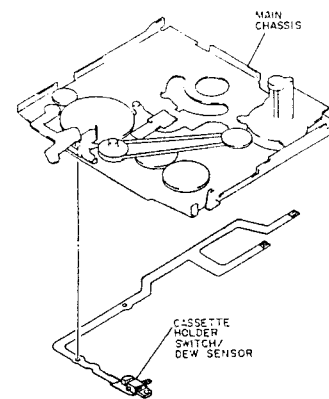

Fig. 2-74
- Peel out the cassette holder switch/dew sensor from the main chassis. (See Fig. 2-74)